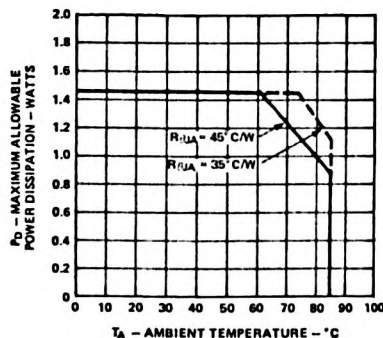

Figure 2. Maximum Allowable Power Dissipation vs. Temperature
2. The device should be derated linearly above 60°C at 22.2 mW/°C. This derating is based on a device mounted in a socket having a thermal resistance from case to ambient at 25°C/W per device. See Figure 2 for power deratings based on a lower thermal resistance.
The HDSP-2490/-2491/-2492/-2493 are available in standard ceramic dual-in-line packages. They are designed for plugging into sockets or soldering into PC boards. The packages may be horizontally or vertically stacked for character arrays of any desired size. The HDSP-2490/-2491/-2492/-2493 utilize a high output current IC to provide excellent readability in bright ambient lighting. Full power operation ($V_{CC} = 5.25\text{V}$, $V_B = 2.4\text{V}$, $V_{COL} = 3.5\text{V}$) with worst case thermal resistance from IC junction to ambient of $45^\circ\text{C}/\text{watt}/\text{device}$ is possible up to ambient temperature of 60°C . For operation above 60°C , the maximum device dissipation should be derated linearly at $22.2\text{ mW}/^\circ\text{C}$ (see Figure 2). With an improved thermal design, operation at higher ambient temperatures without derating is possible. Please refer to Application Note 1016 for further information.